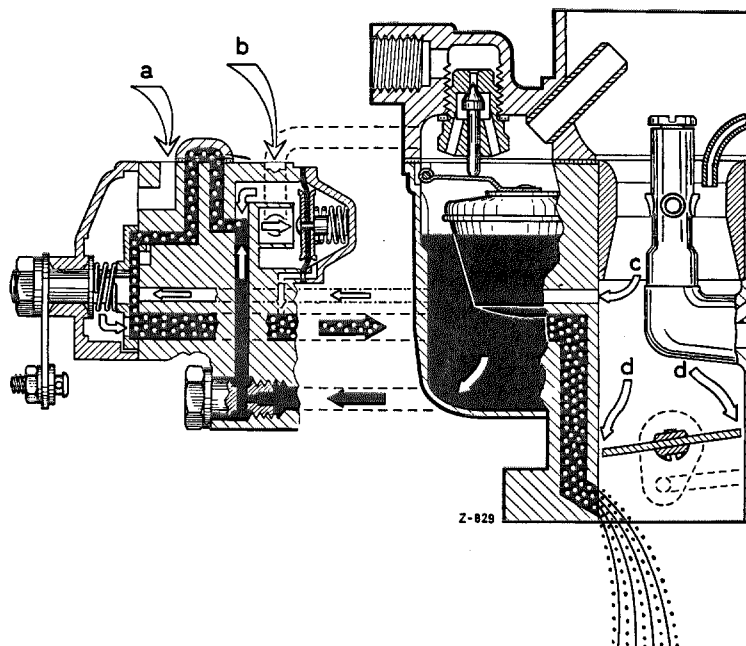

Fig. 07-0/4
Due to the partial vacuum effect the starter air valve opens and admits more air to the starter system from the float chamber via the air canal (5) and the fuel canal (4). This additional air immediately leans out the starting mixture after the engine has started, thus ensuring the proper running conditions for the engine. Fig. 07-0/4 shows the mode action of the starter mechanism after the engine has started.